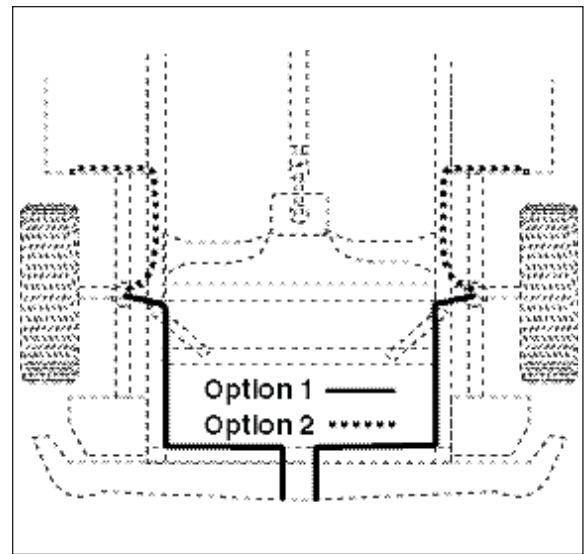

Figure 5
1. Select a location for the inflation valves in the rear bumper area or rocker panel flange insuring that each valve will be protected and accessible with an air hose (Figure 5).
3. Route air line along frame to desired inflation valve location (Figure 5). Attach air line to chassis with the provided plastic straps.